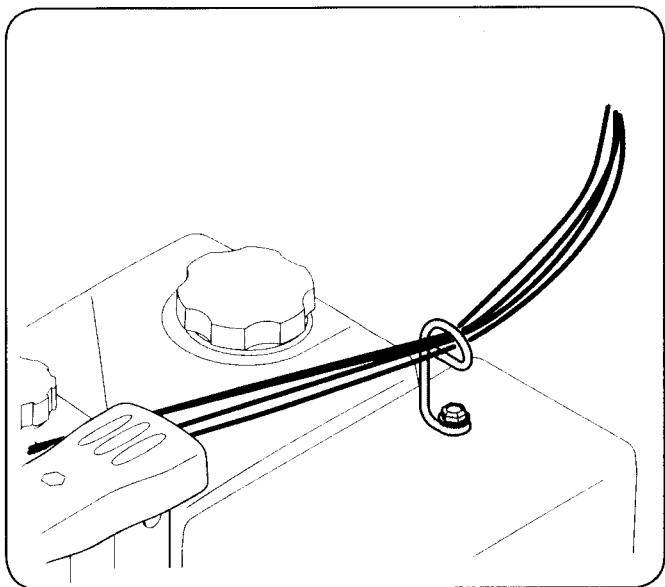

Figure 3-5
4. Check that all cables are properly routed through the cable guide on top of the engine. See Fig. 3-5.
A pair of replacement auger shear pins and bow tie cotter pins are included with your snow thrower. Store them in your snow thrower's dash panel until needed. See Fig. 3-5.